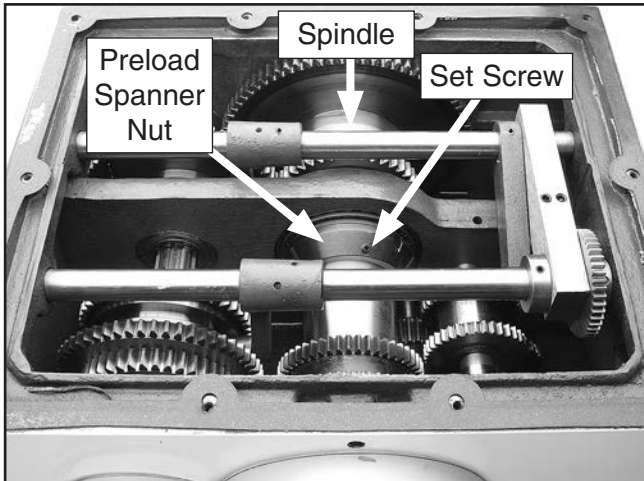

Figure 71. Preload spanner nut.
10. Remove the preload spanner nut set screws (**Figure 71**) with a 3mm hex wrench.
12. Using a spanner wrench, or hammer-and-punch, loosen the preload spanner nut (**Figure 71**) counterclockwise 1 turn.